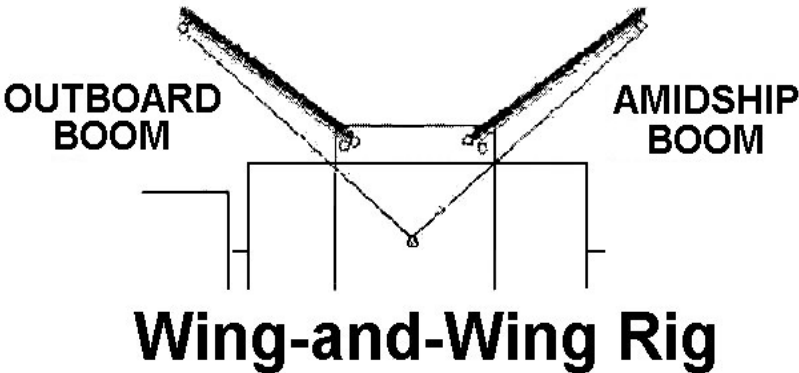

Figure 3-36
- 3. Rig a wing-and-wing rig (see Figure 3-36).